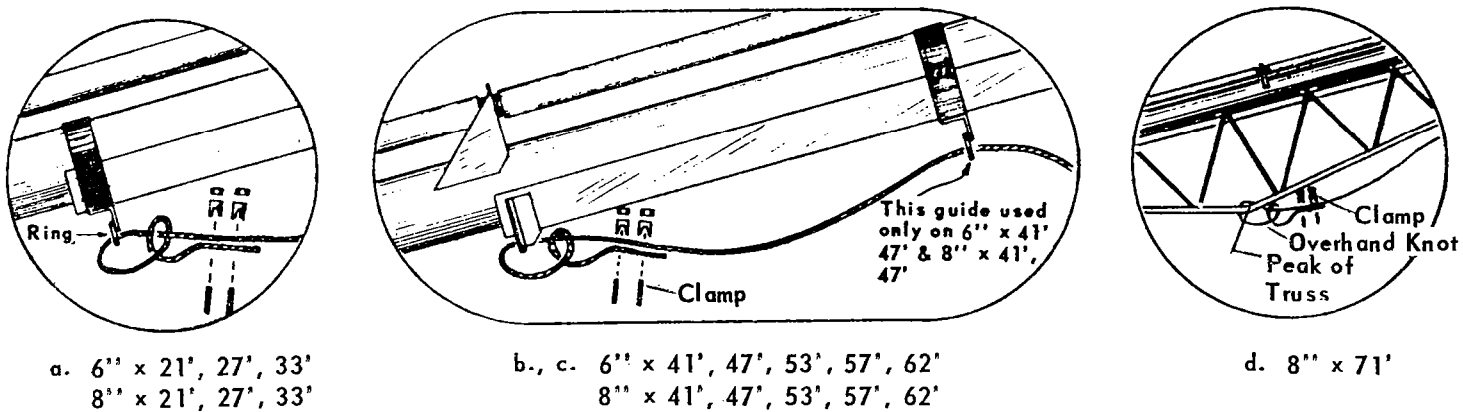

FIG. 1
1. Fasten lower end of restraint cable in the appropriate manner, as described below and as shown in Figure 1.